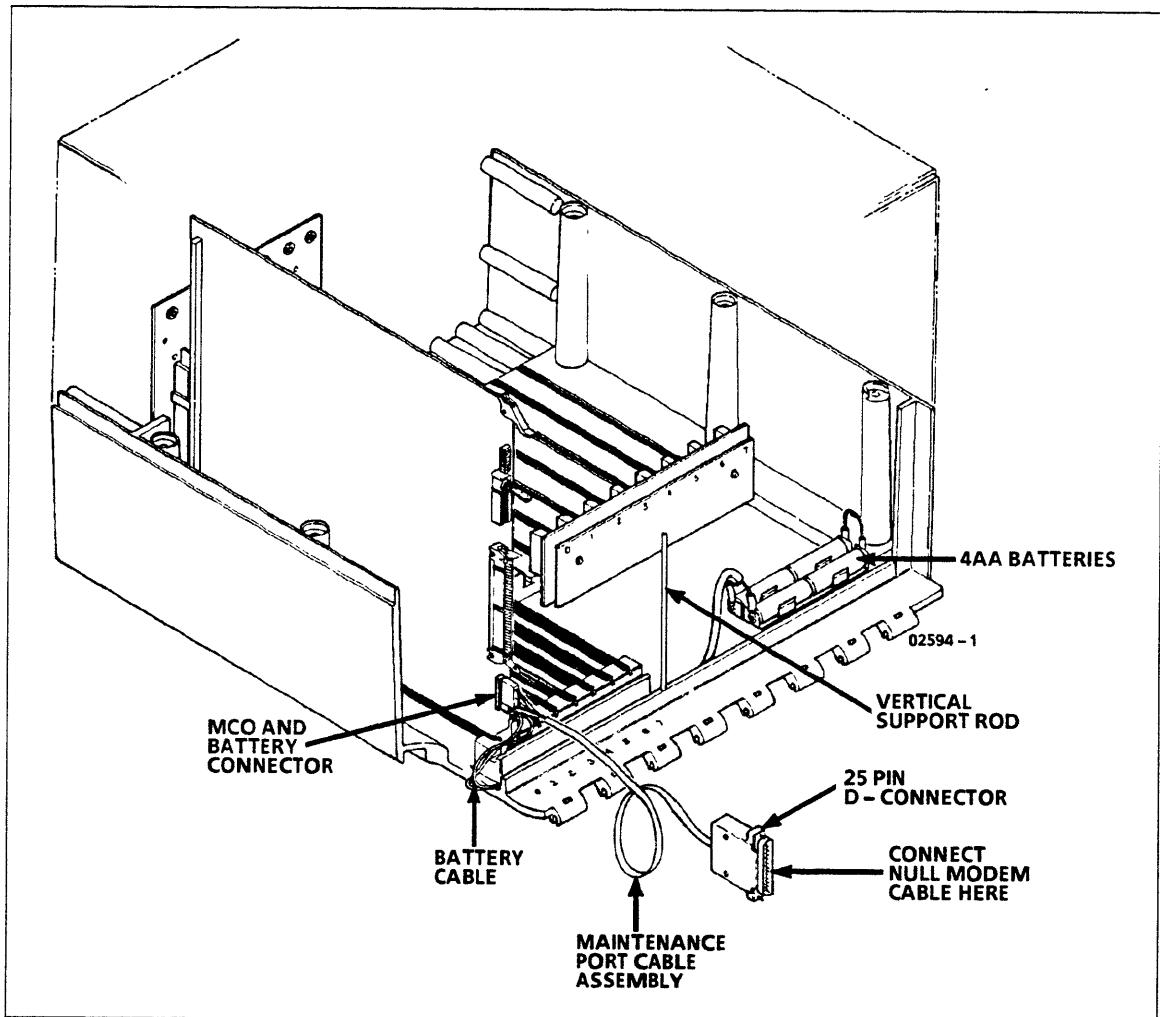

Figure 3-20. Connecting Maintenance Port Cable
3. If you use a maintenance port cable, install it as follows (figure 3-20).